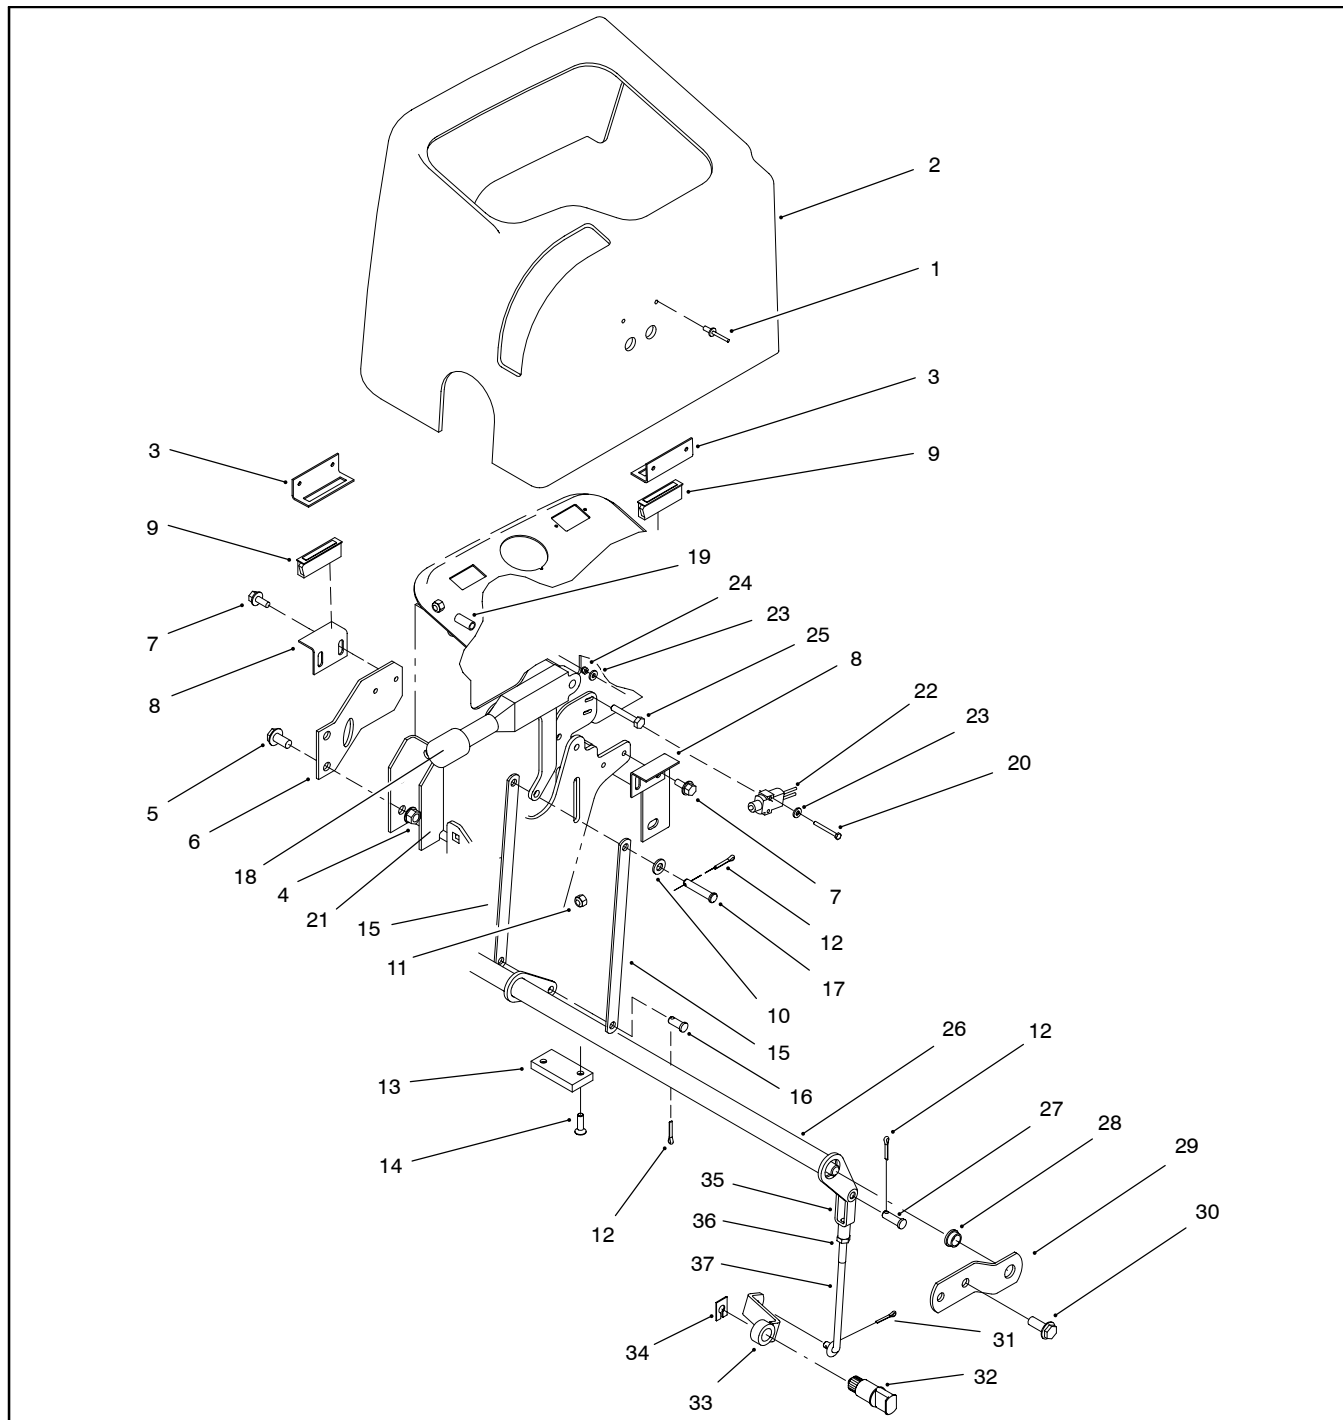

Figure 8
Disassembly (Fig. 8)
3. Remove parts as necessary using Figure 8 as a guide.
Assembly (Fig. 8)
1. Assemble components as necessary using Figure 8 as a guide.